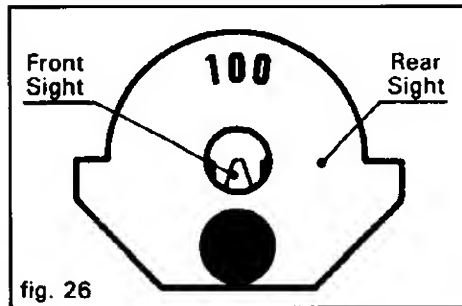

fig. 26
5. Line up your sights with your target by placing the top of the post in the center of the rear aperture. (fig. 26)